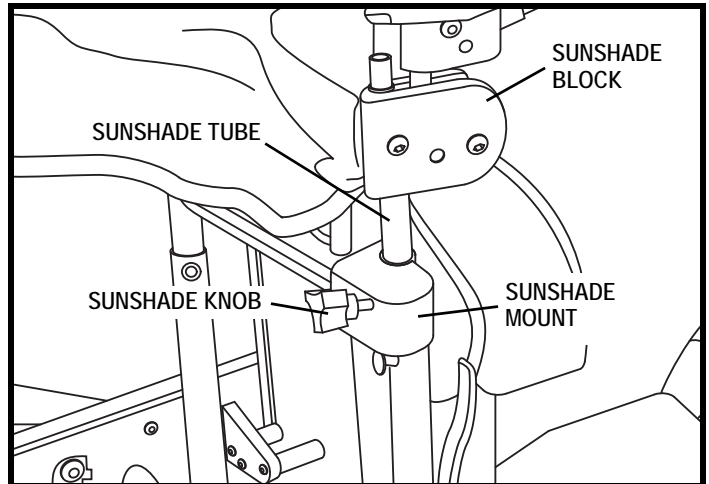

Figure 58. Sunshade Installation (Kids FAST)
1. To install the sunshade, align the sunshade tubes with the sunshade mounts on the rear of the upper back plate. Push tubes into mounts until block contacts mount. **See figure 58.**
2. Secure sunshade to wheelchair by turning knob clockwise until tight. Do not over-tighten. **See figure 58.**